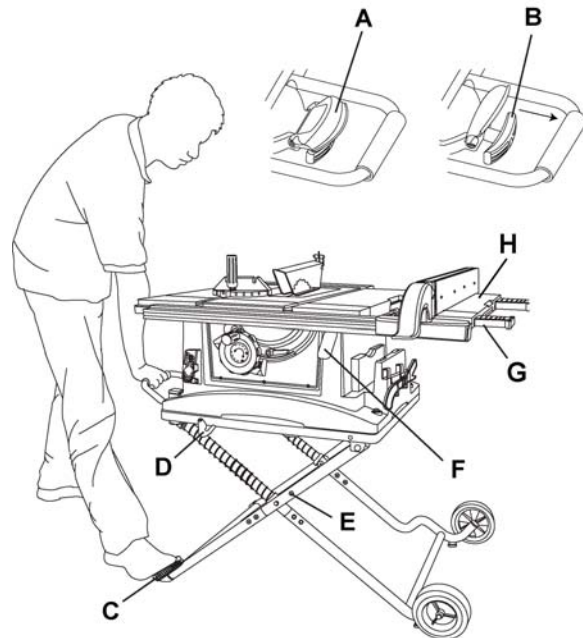
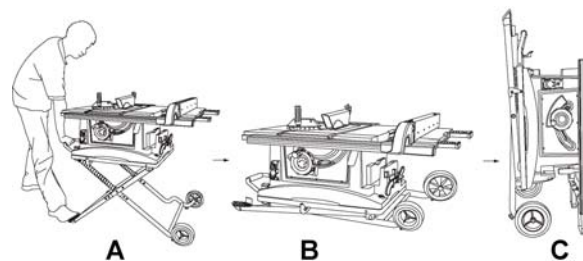

Figure 16
Figure 17
Referring to Figure 16:
1. Raise the *handle cover* (A, Fig. 16) first and pull the *locking handle* (B, Fig. 16) out.
2. Push slowly downward on the stand (A, B, Fig. 17).
3. Release the *locking handle* (B, Fig. 16).
4. Rotate the *stand hook* (D, Fig. 16) onto the stop screw to secure the stand legs into the collapsed position.
5. Secure the side extension table (H, Fig. 16) by pushing the *cam locking lever* (F, Fig. 16) downward.
Note: For convenient storage, there are two *stand up supports* (G, Fig. 16) on the right side of the table saw for supporting the table saw when not in use (C, Fig. 17).